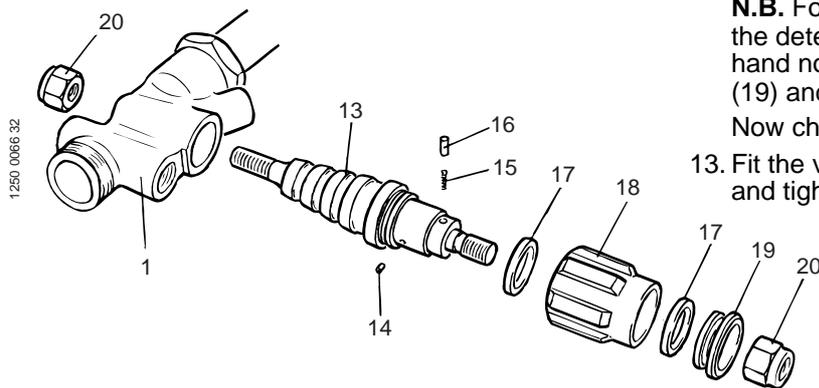

Fig. 18
10. Fit the seals (17) to the valve (13). See fig. 18.
11. Fit the pin (14), spring (15) and detent pin (16). See fig. 18.
12. Fit the control knob (18) to the valve (13).
N.B. For the correct function to be obtained, the detent pin (16) must be fitted in the right-hand notch in the control knob. Fit the washer (19) and nut (20). See fig. 18.
13. Fit the valve (13) into the valve housing (1). Fit and tighten the nut (20). See fig. 18.